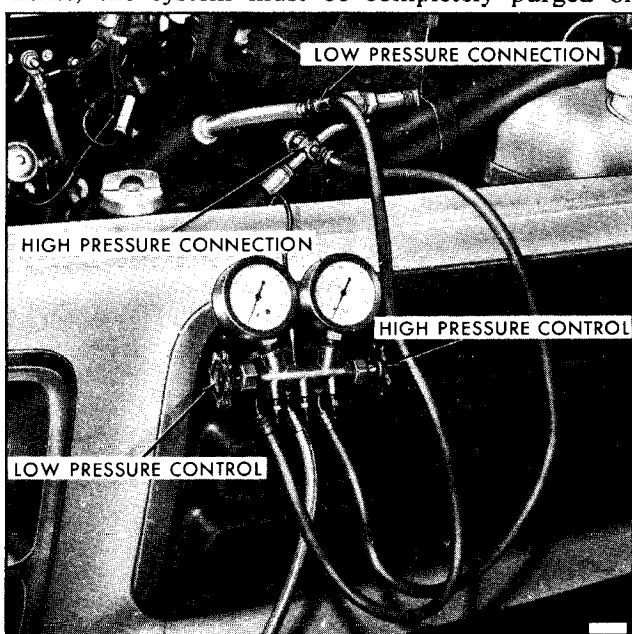

Figure 24—Charging Station Installed
6. Referring to Figure 24, turn the high pressure control one turn counterclockwise (open). Crack open the low pressure control and allow refrigerant gas to hiss from the low pressure gauge line for three seconds, and then connect the low pressure line to the low pressure fitting on the system.